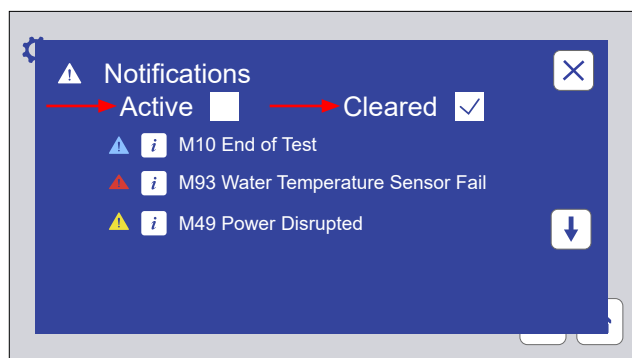
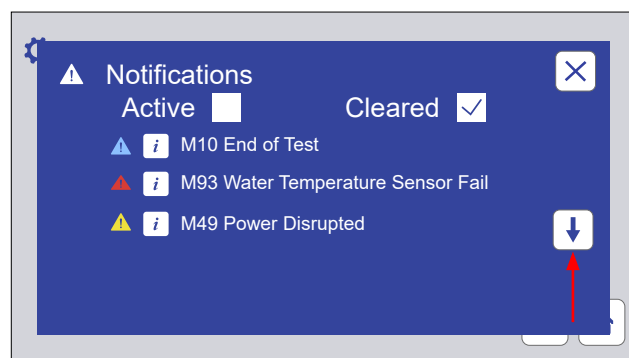

Figure 8.5c: Touch the Active or Cleared check box to view active or cleared notifications.
Figure 8.5d: Touch the scroll button(s) to move down or up the notification list.
- “Active” and “Cleared” notifications are listed separately, in chronological order, most recent at the top of the list (Figure 8.5c, Figure 8.5d).